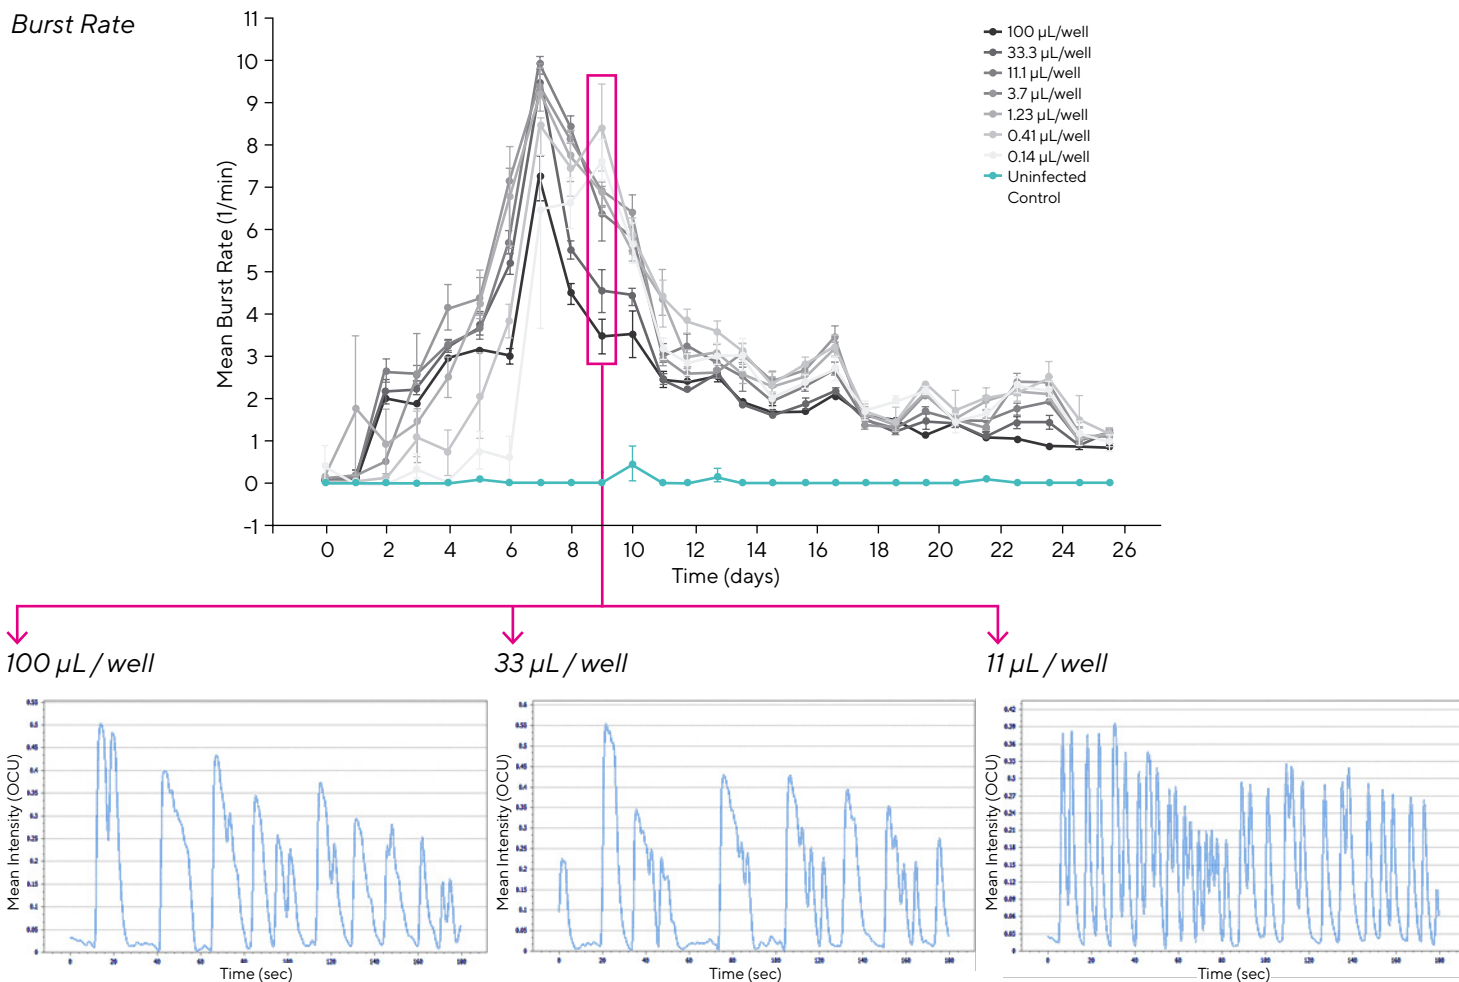

Figure 3
- This effect on burst rate can be observed by looking at the activity summary traces for the day 9 timepoint. Examples of these traces are shown in Figure 3.